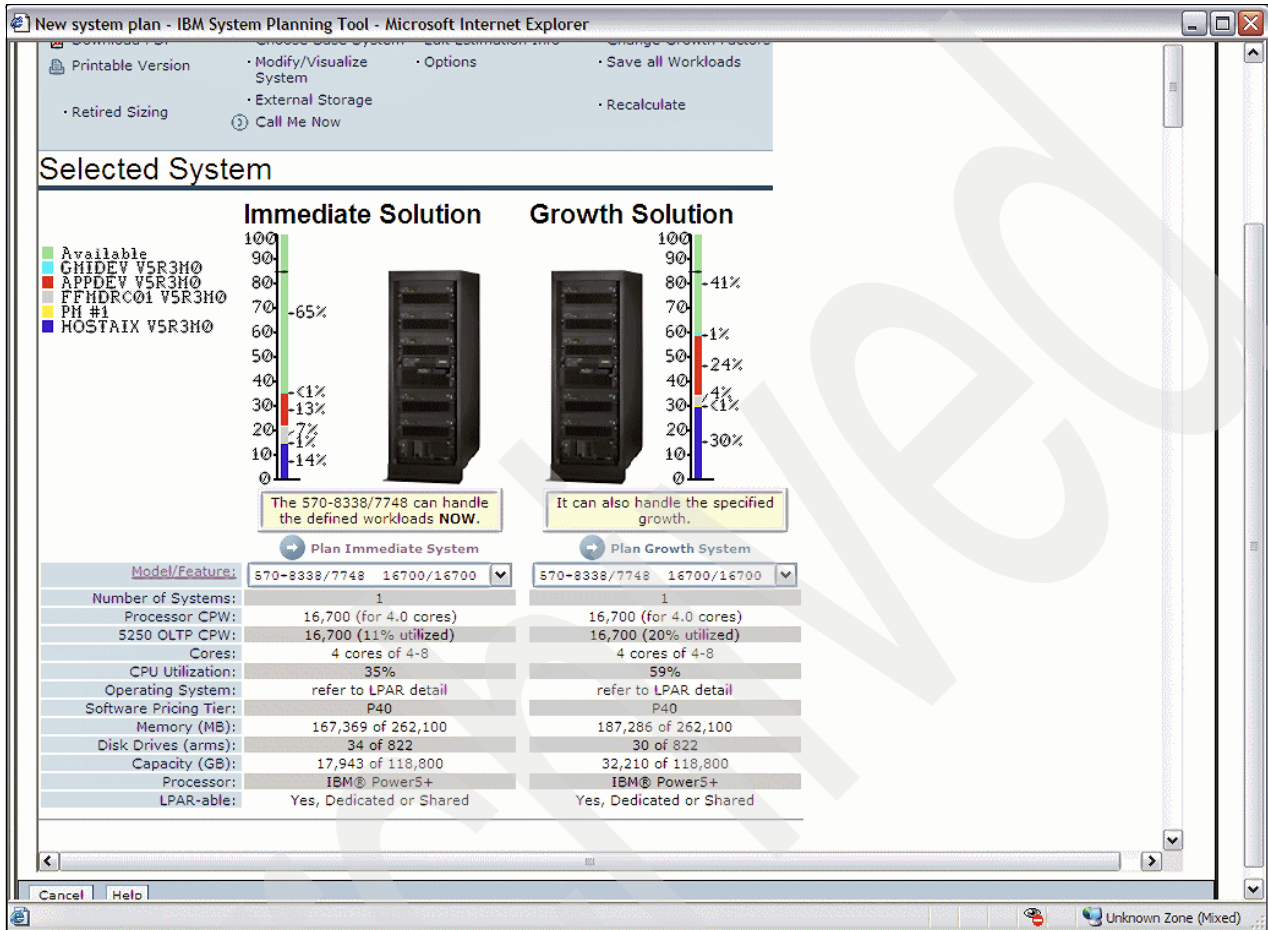

Figure 5-12 WLE selected system
- If you click Back on this window you will go back to the detail data window for additional changes. When you click Select, WLE selects a system for the immediate upgrade and one for a growth upgrade. See Figure 5-12 for the selection. On this window you can create a PDF report of the selected system, save the workloads, go back to change a workload, or chose a different model for the upgrade.